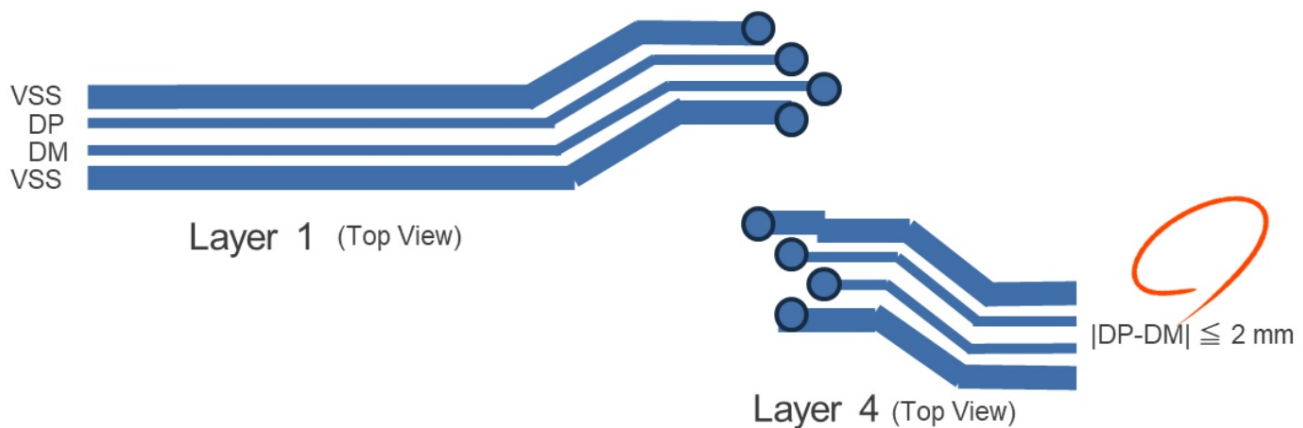

Figure 16, Recommended Design Diagram for Differential Signals
- Differential signals (DP, DM) are designed with a differential impedance of $90\ \Omega \pm 10\%$ and are wired in pairs (same length, parallel, same width, same number of bends, same number of THs). The approximate trace length difference is within 2 mm (See Figure 16). Shield with USB VSS. If it is not possible to shield, do not space it from other signals (especially traces with large currents or high-speed signal patterns) or parallel them. Do not cross as much as possible. Slots/slits in adjacent layers should also be avoided.